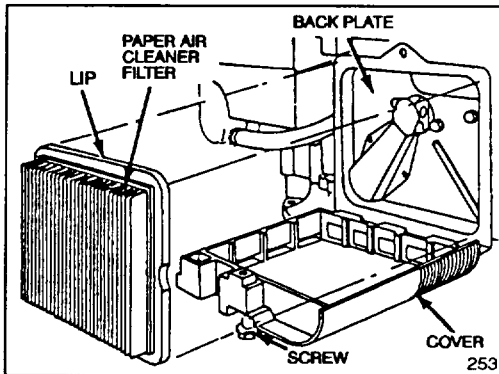

Figure 18
3. Remove paper air cleaner filter (Fig. 18) and discard.
4. Insert new paper air cleaner filter cartridge so lip touches back plate as shown in Figure 18.